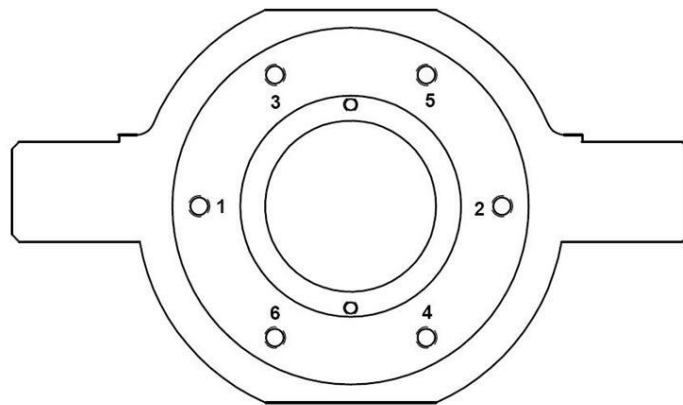

Figure 6.11.2c
- g. Using the short end of a 5mm hex key, tighten in a crisscross pattern until you can no longer tighten any of the screws. See figure 6.11.2c
1. The tightening pattern described in figure 6.11.2c must be followed to properly preload the angular contact bearings.
2. Tighten in the pattern shown in figure 6.11.2c to a torque value of 7 ft lbs (84 in-lbs), do not however, do this in one pass, the pattern should be followed two or three times until 7 ft lbs of torque is achieved. DO NOT CONTINUE TIGHTENING after the "click" of the torque wrench.